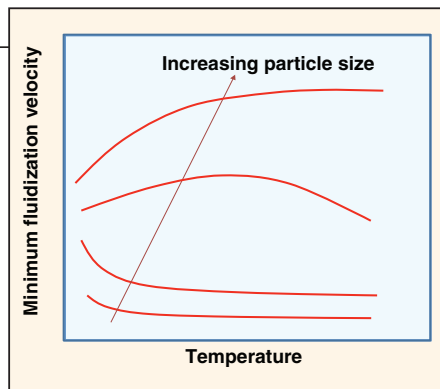

FIGURE 6. Shown here is the effect of temperature on minimum fluidization velocity (adapted from Yang [12])
- Effect of temperature (as shown in Figure 6):